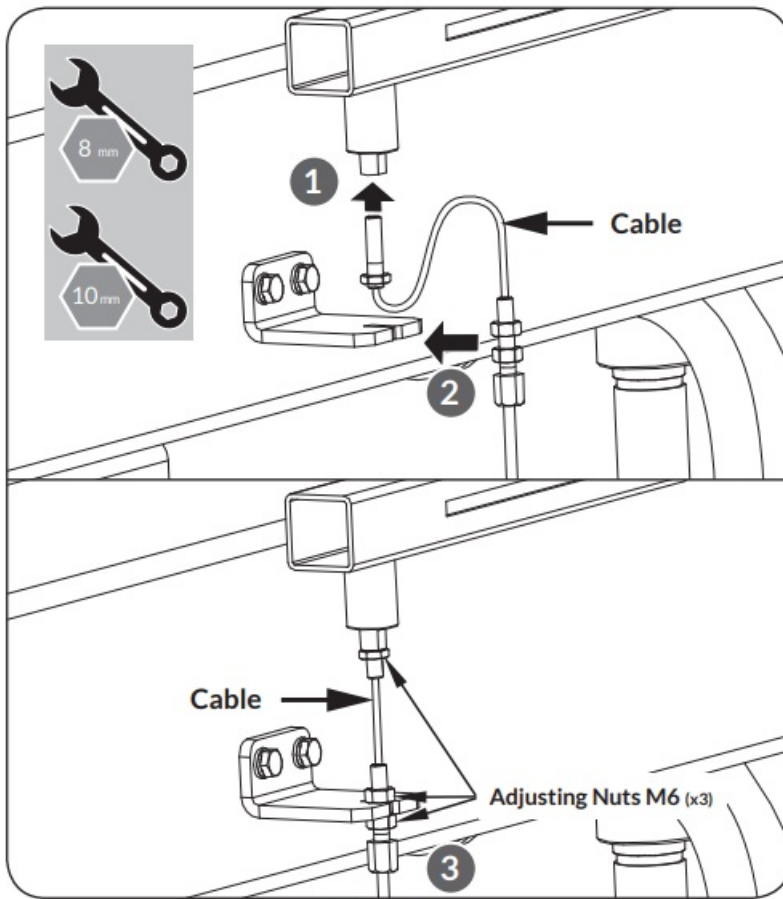

**Figure 3a**
1. Install the cable fixing plate, paying attention to keeping the fixing plate hole in line with the center of the upper spring pin. (See Figure 3a)